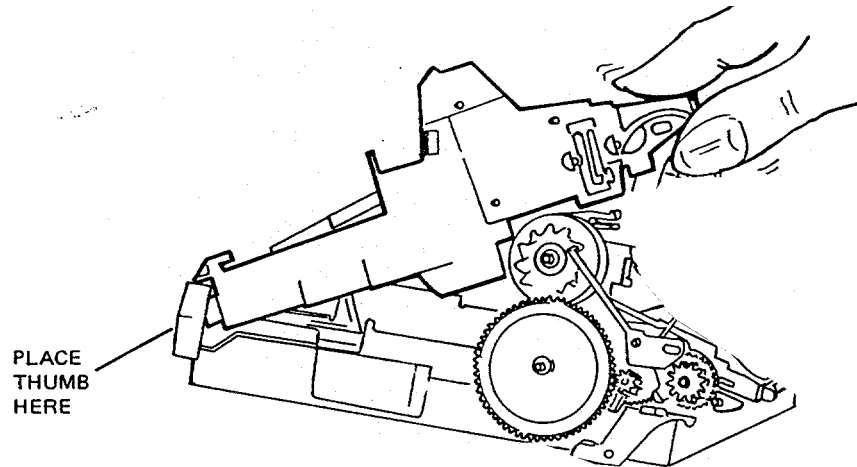

Fig. 41 Removing the Gear Drive Cover
50. Refer to Fig. 41: place your thumb over the left end of the Gear Drive. Slowly and carefully lift the right end of the Cover. Remove the Cover by walking the left end free of its detent. Use care to not break the detent.
63. Replace the Gear Drive Cover (see Fig. 41), carefully maneuvering it into place to prevent breaking the rear (left end) detent. Snap-in the forward detent first, then the hanger detent, finally the rear detent.